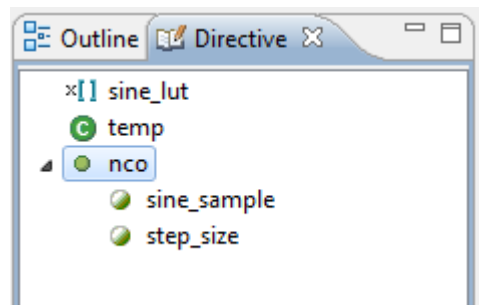

Figure 4.29: Vivado HLS Directive tab
- (l) Ensure that **nco.cpp** is the active source file, and select the **Directive** tab in the right-hand side of the Vivado HLS workspace, as shown in Figure 4.29.